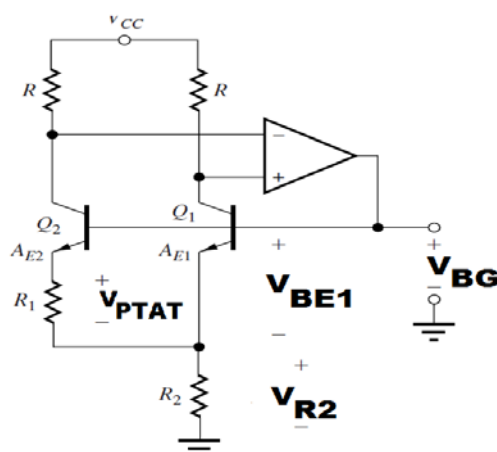

Figure -1b
- b. A Voltage reference generator is shown in **Figure-1b**. Given $R = 30\text{K}\Omega$, $R_1 = 1\text{K}\Omega$, $R_2 = 4.16\text{K}\Omega$, $I_{S1} = 0.1\text{fA}$, $A_{E2} = 10A_{E1}$. Calculate V_{PTAT} , V_{BE1} , I_{C1} , V_{BG} .